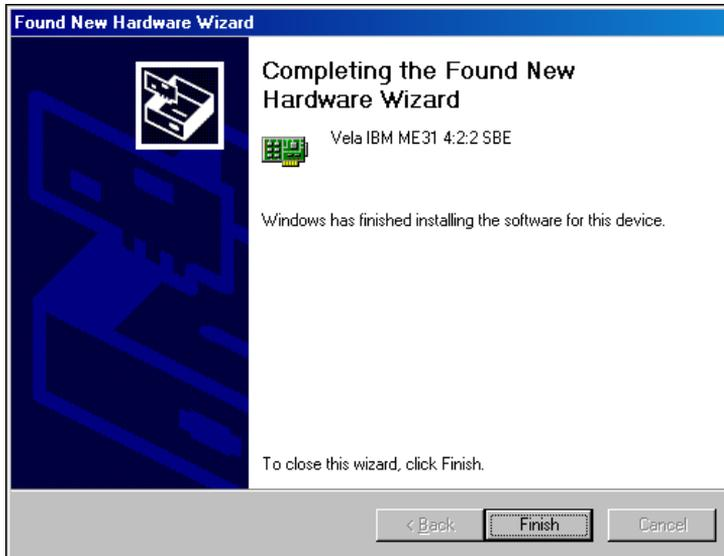

Figure 2-19. “Completing Found New Hardware Wizard” Window
11. The “Completing the Found New Hardware Wizard” window appears (Figure 2-19). Click Finish.